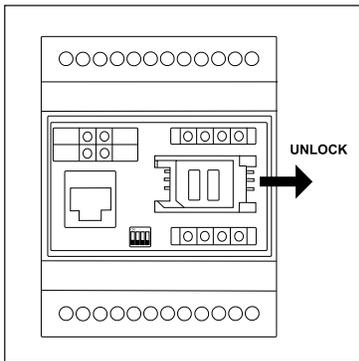

Figure 7.1.2
- Slide the SIM card holder toward its hinge to unlock it (see the *Figure 7.1.2*).